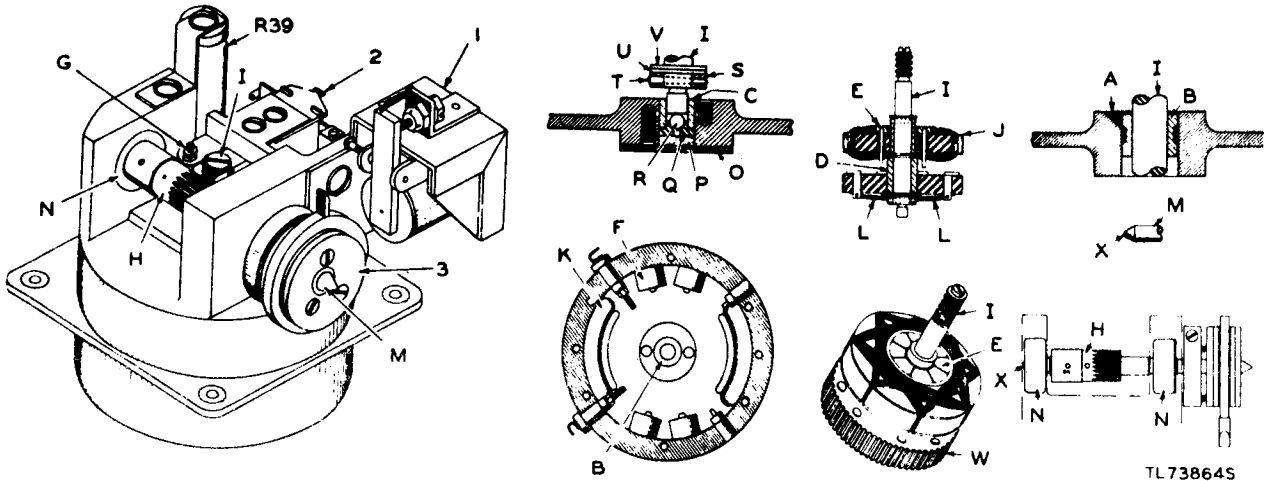

Figure 105. Synchronous motor, early models.
(figs. 105, 106, and 107)
Caution: Work on the synchronous motor should be done in a clean, dry place. Disassemble and assemble motor parts with care, avoiding risks of scratching and damaging any of the machined surfaces. Be careful not to lose the lower thrust bearing ball (R, fig. 105) when disassembling the motor.
a. Top Bearing (B, fig. 105). It is not practical to replace this bearing in the field. Use solvent (SD) to remove gummed-up oil and grease. After
b. Lower Bearing (fig. 105). In motors with serial numbers below 1157, do not attempt to replace the side-wall bearing in the field. Clean and re-oil. In motors with serial numbers above 1157, side-wall bearings (C, fig. 105) are of the ball-bearing type. These bearings may be replaced when defective. If tests indicate that synthetic rubber pad P is too soft, replace it. If the pad is too hard, a portion of the center can be cut away. If bearing ball R is replaced, select one that will not bind on the side wall of the bearing.
c. Synchronous Rotor Bearing (D, fig. 105). This bearing cannot be replaced in the field. If the rotor turns too freely on the shaft and does not fall into synchronism as it should, the free oscillating action must be reduced by adding some end thrust. Insert a thin washer (U) between the felt washer (V) and collar (S) Remove the collar after driving out the taper pin (T) with a
e. *Synchronous Motor Field Coils* (F, fig. 105). In emergencies, a defective coil can be disconnected and the motor operated on three of its four coils. The power will be reduced, making it difficult to phase. Motors with serial numbers above 1000 have six poles; those below this serial number have four poles. The removal of one coil does not materially reduce the motor power. When ordering replacement parts, be sure to select the proper replacement coil. For replacement of synchronous motor coils and bushings on synchronous motors KBA-1 and KBA-2, use the appropriate Signal Corps Motor Coil Replacement Kit.
h. *Synchronous Motor, Parts Description* (fig. 105).
i. Gear (H) (fig. 105). The gear on the drive shaft can be replaced if suitable shop facilities are available. Pin the new gear to the shaft with a taper pin. Sometimes, a damaged gear can be moved along the shaft and pinned in a new place so that 23 good portion of the gear will mesh with the worm.